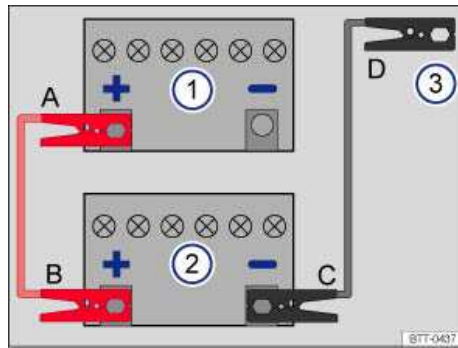

Fig. 222 Diagram for attaching the jumper cables: Dead battery 1 and booster battery 2.
⇒ fig. 222 A – B – C – D.
- (3) Attach one end of the *red* jumper cable to the **positive terminal (+)** of the dead battery (1) ⇒ ⚠
- (4) Attach the other end of the *red* jumper cable to the **positive terminal (+)** of the good battery (booster battery) (2).
- (5) Attach one end of the *black* jumper cable to the **negative terminal (-)** of the booster battery (2) ⇒ fig. 222.
- (6) Attach the other end of the *black* jumper cable (3) to a **bare metal part of the vehicle with the dead battery**. This part should be connected directly to the engine block. You may also attach the cable to the engine block itself. Attach the clamp to a point that is as far away as possible from the dead battery: (1) ⇒ ⚠